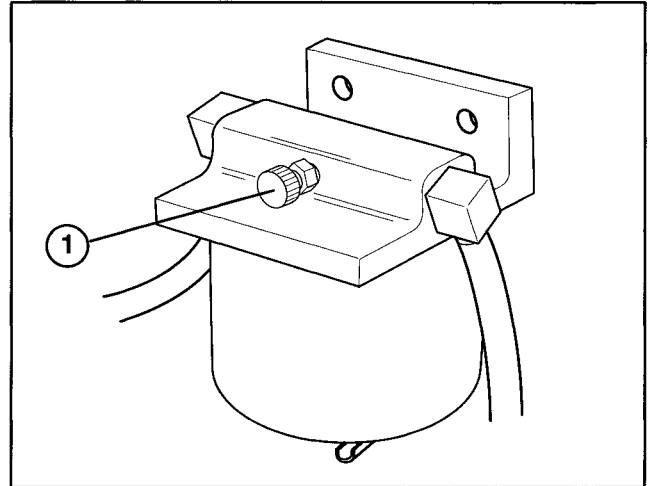

Figure 26
2. Loosen air bleed screw on top of fuel filter/water separator (Fig. 26).